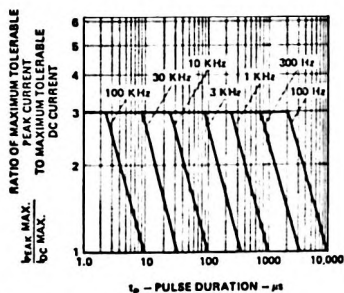

Figure 5. Maximum Tolerable Peak Current vs. Pulse Duration (I_{DC} MAX as per MAX Ratings)
1. See Figure 5 (Red), 10 (Yellow), or 15 (Green) to establish pulsed operating conditions.